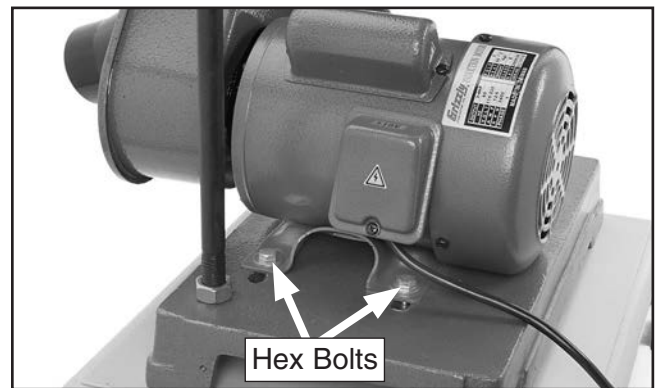

Figure 88. Rear motor mounting bolts.
6. Loosen the (4) hex bolts that secure the motor to the base, as shown in **Figures 88–89**, then slide the motor toward the back of the sander to reduce belt tension or slide it toward the front of the sander to increase tension.
3. Loosen the (4) hex bolts that secure the motor to the base, as shown in **Figures 88–89** on **Page 49**, then slide the motor toward the back of the sander to reduce belt tension.
5. Slide the motor toward the front of the sander, then tighten the (4) hex bolts on the motor base.